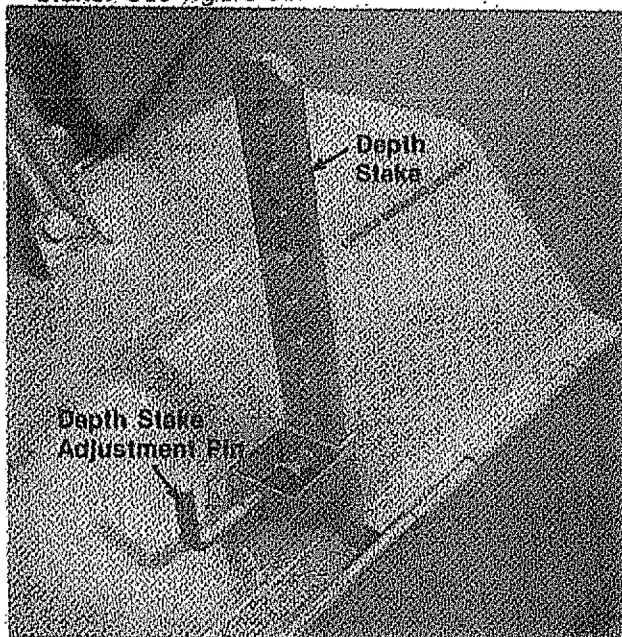

FIGURE 30.
1. Adjust the depth stake by pulling the depth stake adjustment pin. Release the depth stake. See figure 30.